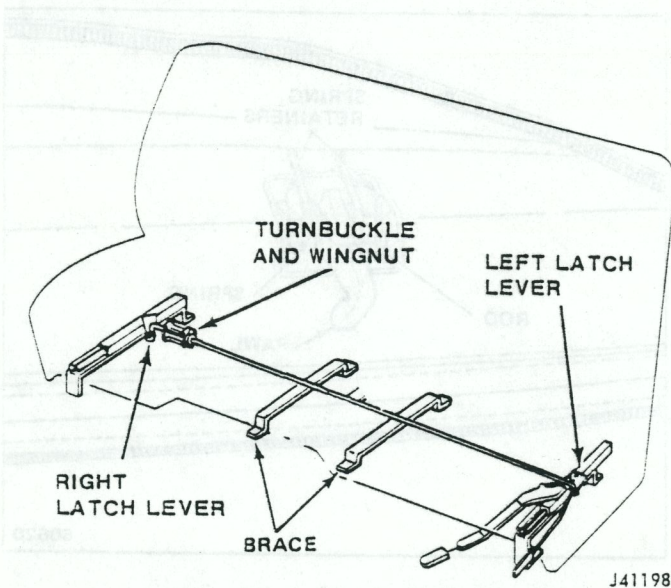

Fig. 3M-3 Front Seat Adjustment
- (1) Locate turnbuckle under bench seat (fig. 3M-3). Loosen turnbuckle wingnut.
The beverage container type floor console (fig. 3M-4), available only with bucket seat equipped models, is fabricated from molded plastic material. The floor console cover is provided with a lock and two depressions designed to hold beverage containers. The bottom of the floor console is equipped with a hole, in the rear, allowing ice water to drain onto the ground.